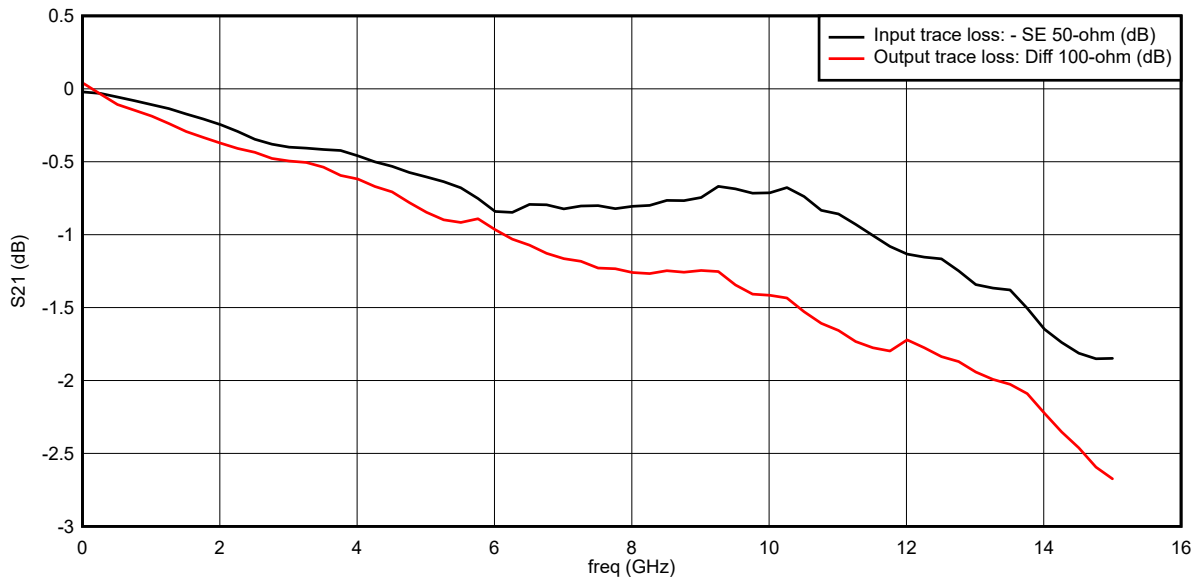

Figure 3-2. PCB Trace Loss vs Frequency
4. Account for board trace losses at the input and output side of the device during gain measurements. Figure 3-2 gives typical input and output trace losses measured on the EVM.